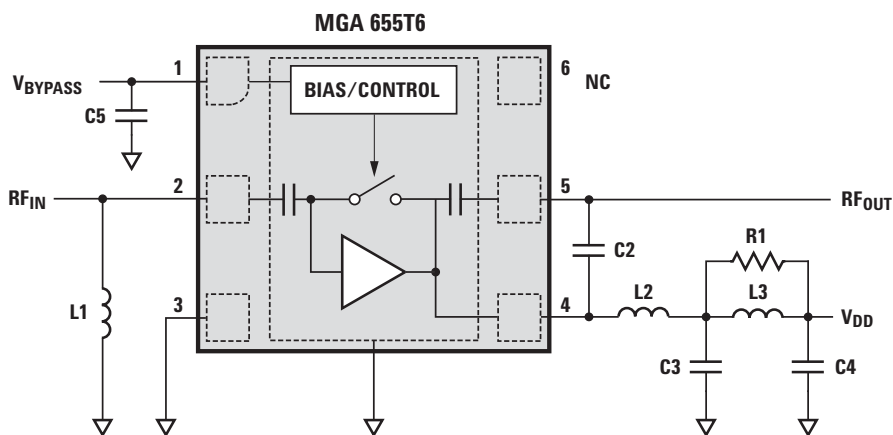

Figure 5. Demo board schematic diagram
1. Measurements at 3.5 GHz obtained using demo board described in Figure 4, with component values on Figure 5.